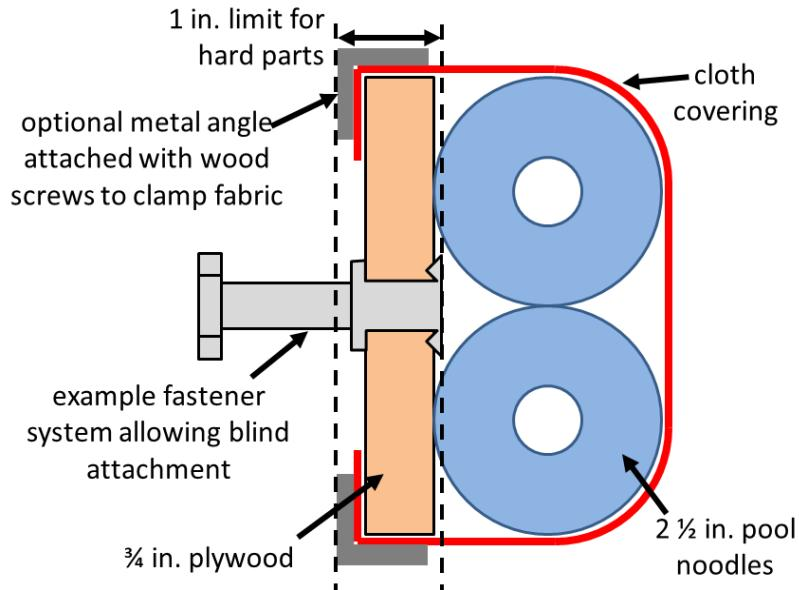
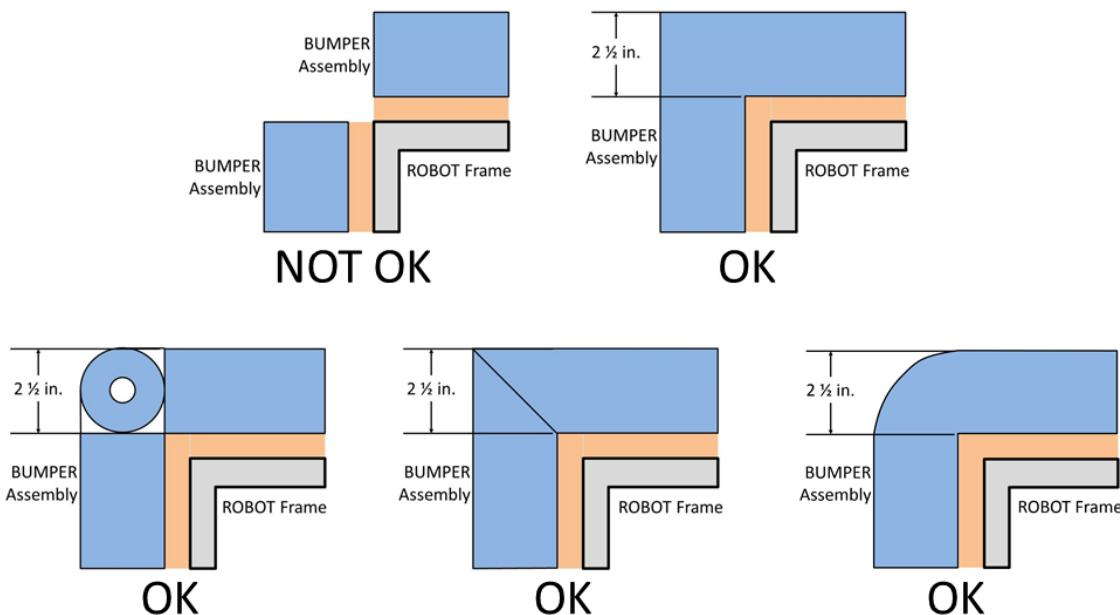

Figure 9-6 BUMPER Vertical Cross Section
Figure 9-7 Soft Parts of BUMPER Corners
R24. BUMPERS must be constructed as follows (see Figure 9-6):
- C. use a stacked pair of approximately $2\frac{1}{2}$ in. (nominal, ~63mm) round, petal, or hex "pool noodles" (solid or hollow) as the BUMPER cushion material (see Figure 9-6). All pool noodles used in a BUMPER set (e.g. Red set of BUMPERS) may not be modified (with the exception of cutting to length or cutting to facilitate mating pool noodles at the corners as required by R25) or deformed and must be the same diameter, cross-section, and density (e.g. all round hollow or all hex solid). Cushion material may extend up to $2\frac{1}{2}$ in. (~63 mm) beyond the end of the plywood (see Figure 9-7). To assist in applying the fabric covering, soft fasteners may be used to attach the pool noodles to the wood backing, so long as the cross section in Figure 9-6 is not significantly altered (e.g. tape compressing the pool noodles).
- D. be covered with a rugged, smooth cloth. (multiple layers of cloth and seams are permitted if needed to accommodate R21 and/or R22, provided the cross section in Figure 9-6 is not significantly altered).
- E. optionally use metal angle, as shown in Figure 9-6 or other fasteners (e.g. staples, screws, adhesives, etc.) to clamp cloth.
R25. Corner joints between BUMPERS must be filled with pool noodle material. Examples of implementation are shown in Figure 9-7.